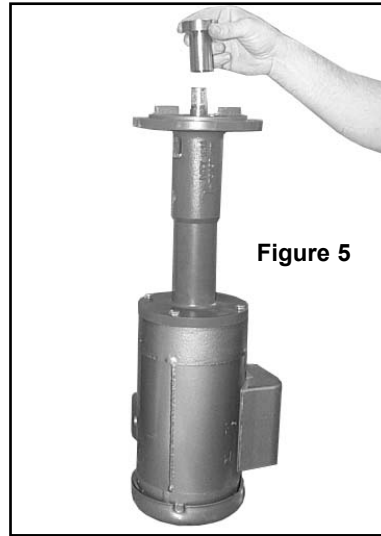

Figure 5
4. Install throttle bushing by sliding thin side of bushing toward motor until bushing bottoms. See Figure 5.